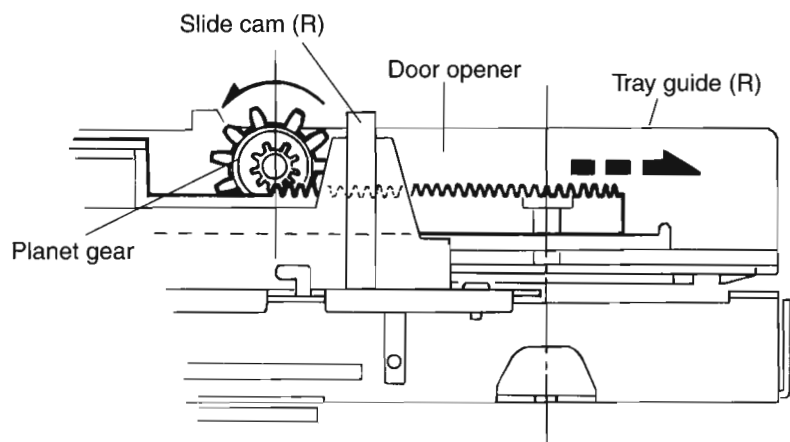

Fig. 6
- : After aligning the slide cam R as shown in Fig. 6 (see Removing Step", mount the top cover and fix the mechanism with screws.